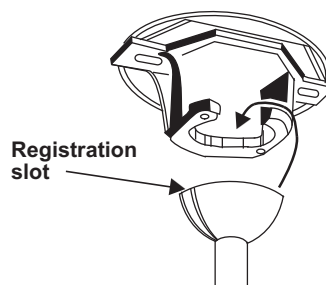

Figure 5
8. Now lift the motor assembly into position and place the hanger ball into the hanger bracket. Rotate until the "Check Tab" has dropped into the "Registration Slot" and seats firmly. The entire motor assembly should not rotate if this is done correctly. (Fig. 5)